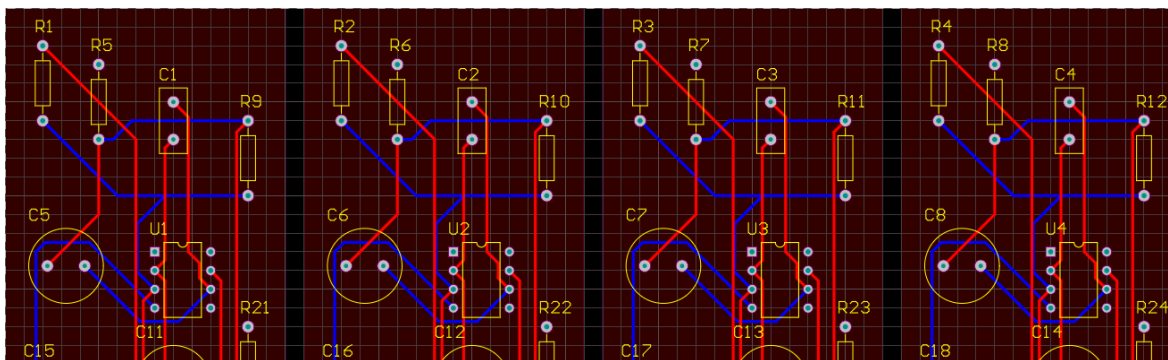

Figure 7. Designators reordered based on location on the PCB
21. Click **OK** to accept the change. The revised board should look like Figure 7 with *R1* in the top left corner.